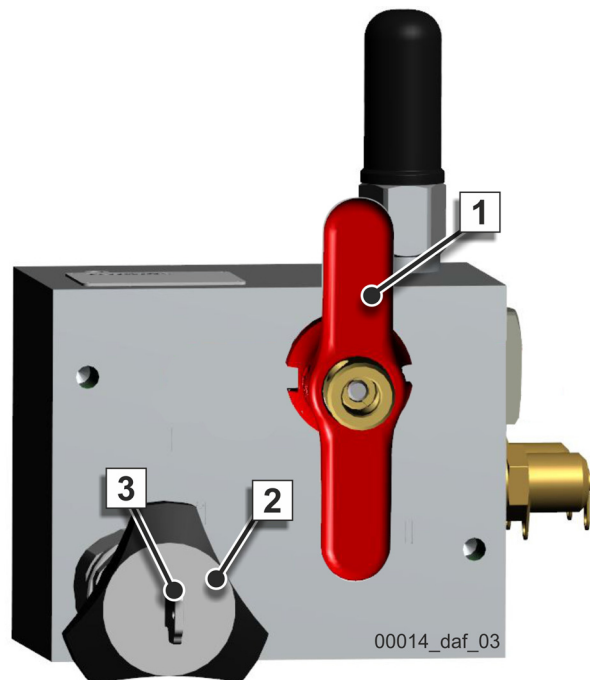

Fig. 239
When delivered, the ball valve (1) (**Fig. 239**) is situated in an upright position (=max. concrete pressure).
8. Now set the new maximum pressure using the hand-wheel (2) (**Fig. 239**).